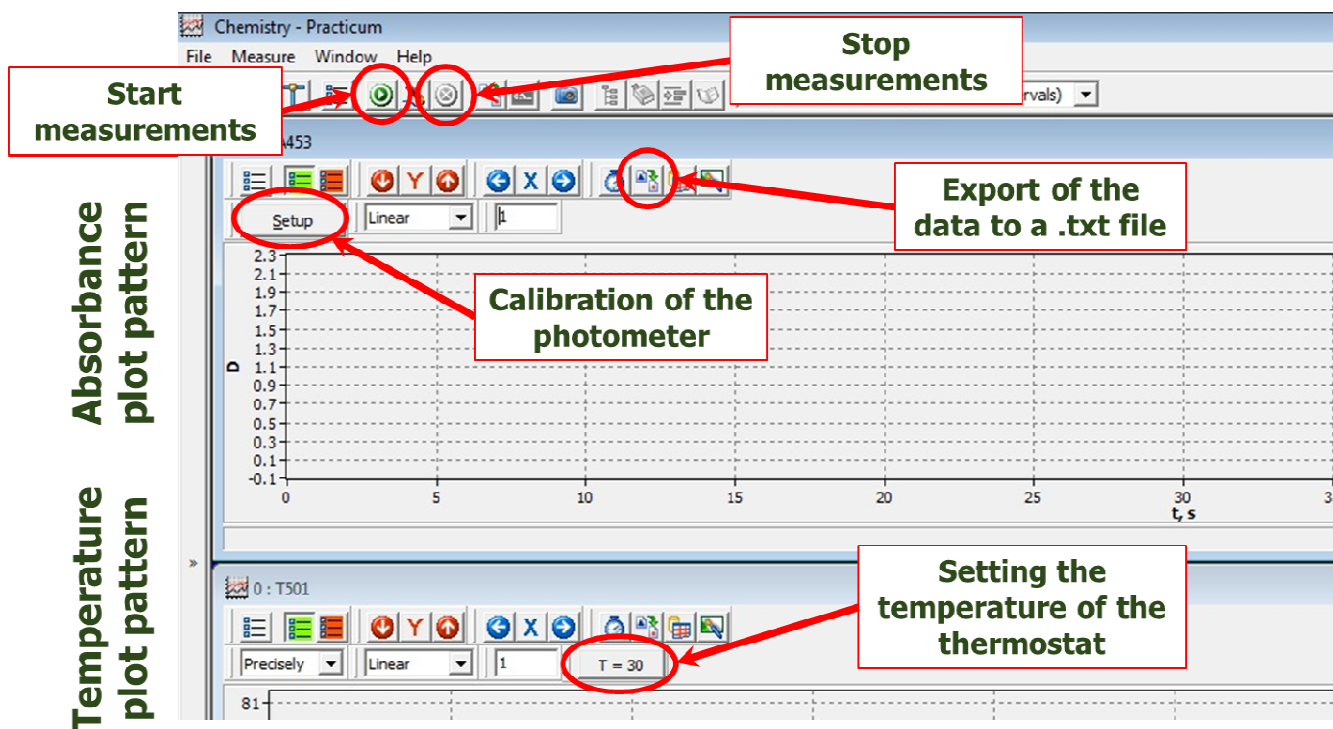

Fig. 6. "Chemistry-Practicum" software interface
- 4) Set the following parameters in the Menu bars of the corresponding plot patterns (Fig. 6):